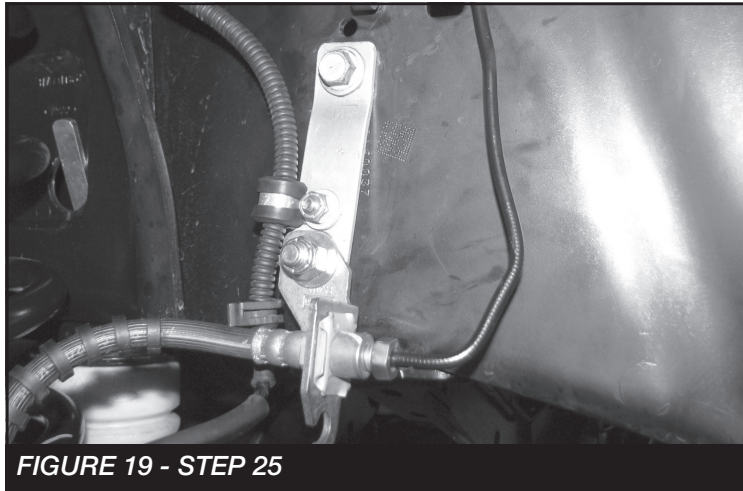

FIGURE 19 - STEP 25
25. **(PASSENGER SIDE)** Install FT30659 (Brake line bracket) to the factory brake line tab using the supplied 3/8" hardware (Use lower hole). Next, using the supplied rubber clamp and 1/4" hardware, attach the ABS line to the upper hole on the FT30659 bracket. Re attach to the frame using the factory hardware. Torque 3/8" & factory hardware to 52 ft-lbs. Torque 1/4" hardware to 14 ft-lbs. **SEE FIGURE 19**